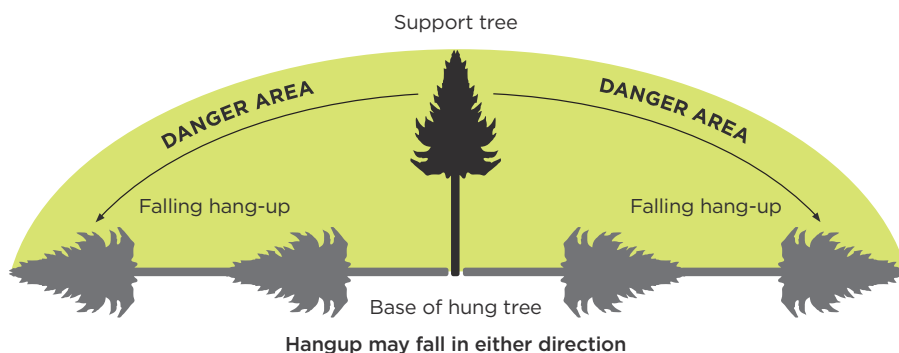

FIGURE 24:
- 21.10.2 Figure 24 shows the danger area when felling a hung-up tree.